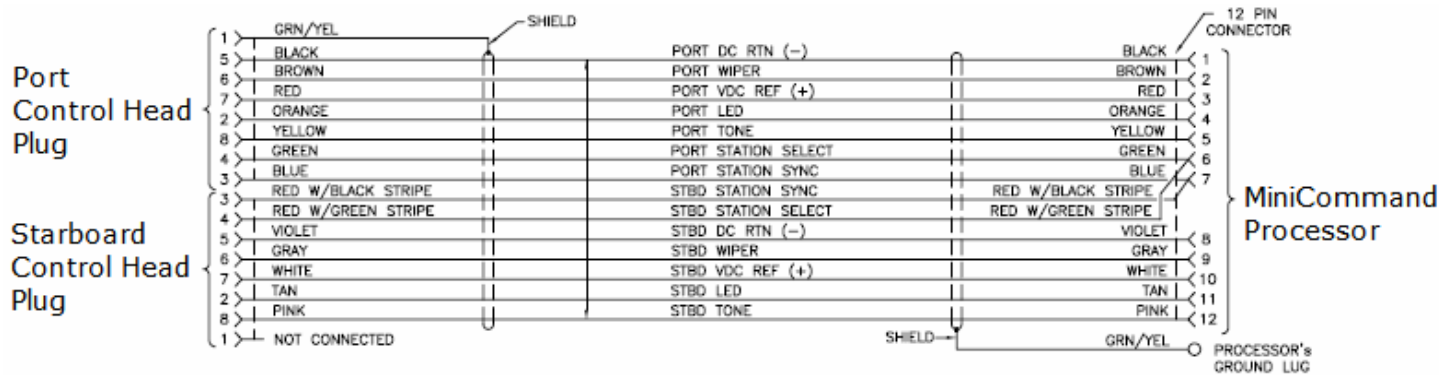
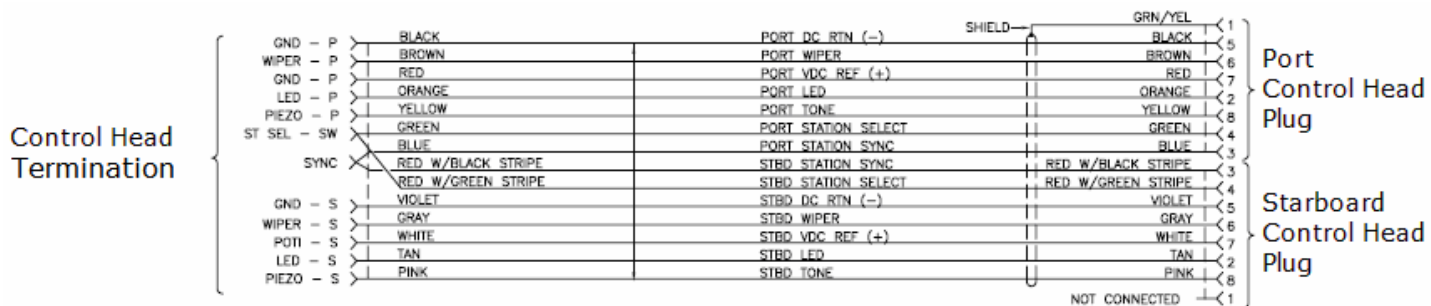
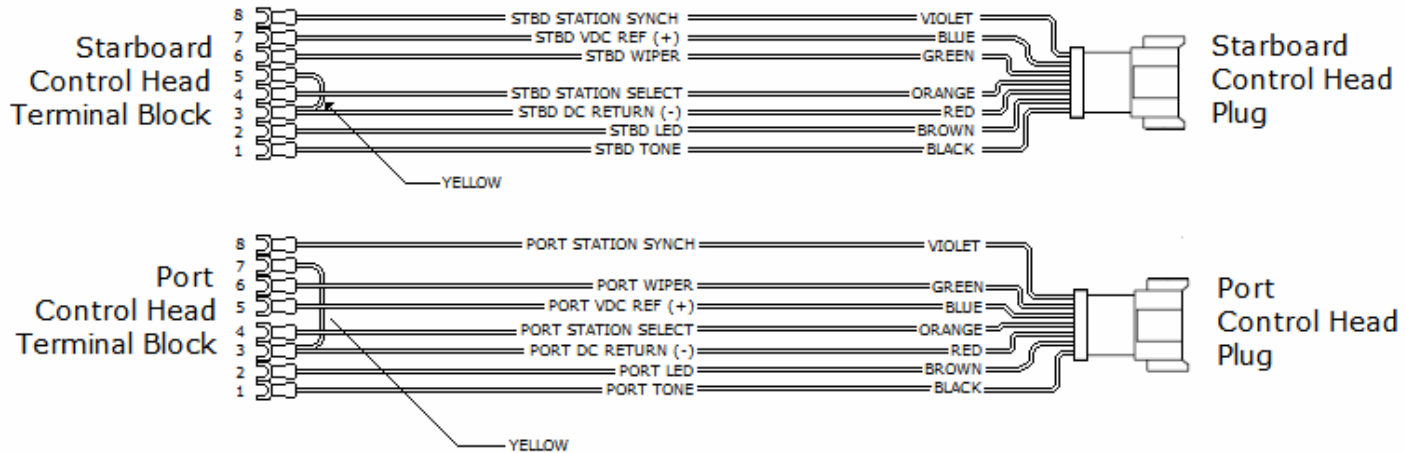

Figure 48: Control Head Wire Harness
Figure 49: Control Head Pigtail (4200 Series)
Figure 50: Control Head Pigtail (400, 500, 700 and MC2000 Series)
- An open or high resistance connection between the Control Head and Processors on the DC RTN (-) WIPER or VDC REF (+) conductors. This may be in the Control Head Wire Harness or Pigtail (4200 Series Only). Refer to Figure 48, Figure 49, and Figure 50.